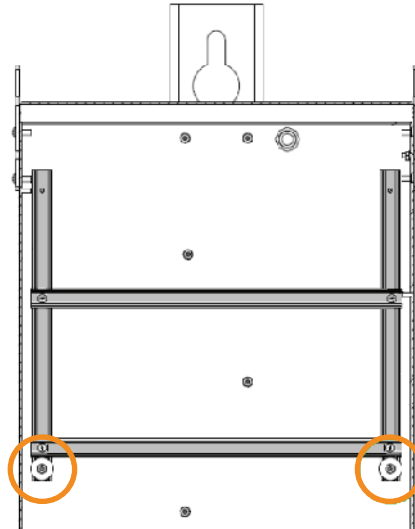

Figure 1 Install Accessory Mounting Assembly
- Step 2. Install the accessory mounting kit subassembly to the back of the cabinet. Secure the accessory mounting kit to the cabinet with two fender washers and two 10-32 self-locking nuts on the bottom studs only. See *Figure 1*.